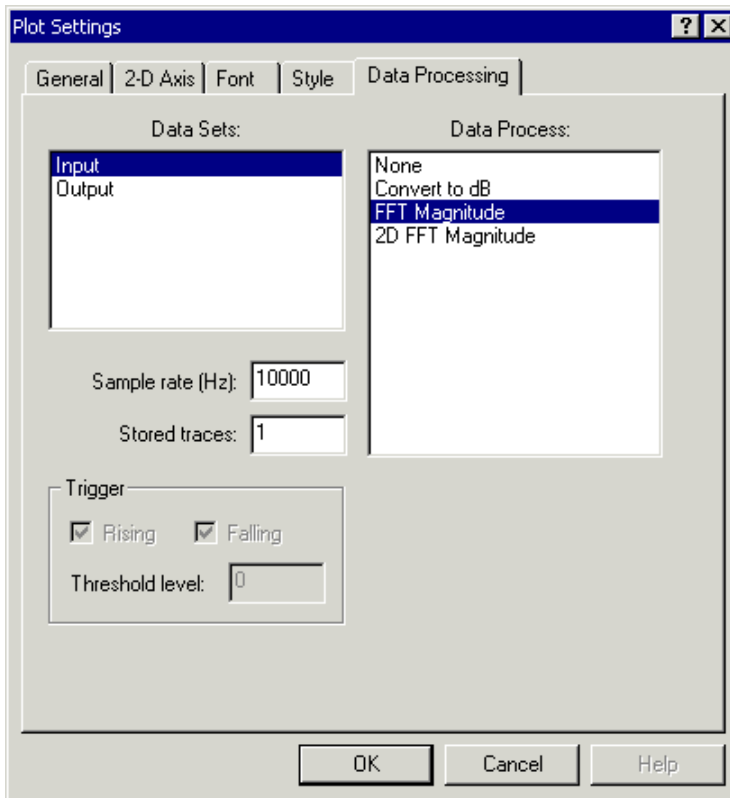

Figure 2-32. Data Processing Page
- a. Click the **Data Processing** tab to display the **Data Processing** page, shown in Figure 2-32 on page 2-43.
6. Click the **Data Processing** tab to display the **Data Processing** page, shown in Figure 2-32 on page 2-43.